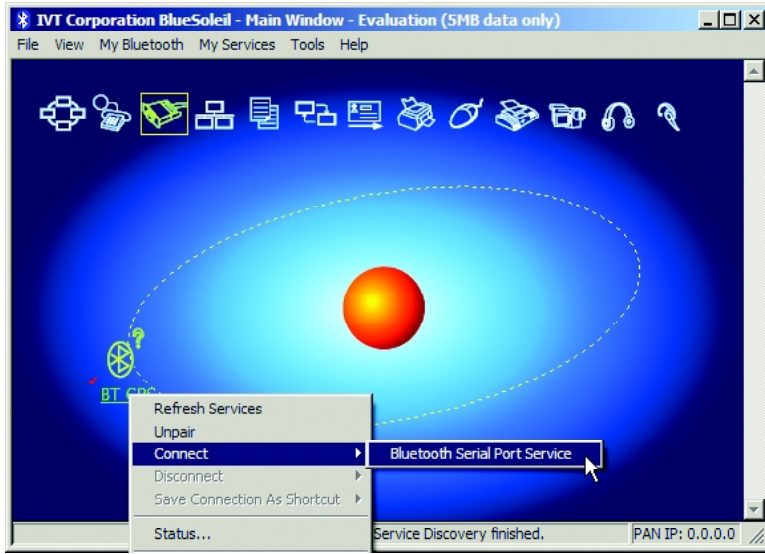

Figure 9 : shows the connection between the ZX-BLUETOOTH (in BT GPS name) with Bluetooth Serial Port Service
8. Connect the ZX-BLUETOOTH with Bluetooth Serial Port Service by clicking at the yellow serial port on top of window or click the right-button mouse at BT GPS to select **Connect > Bluetooth Serial Port Service** following the figure 9.